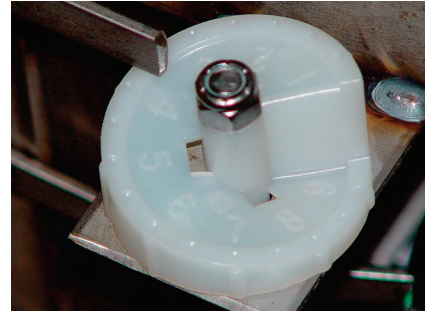

Fig. 6-1
2. The accurate method for checking pattern uniformity is to lay out shallow boxes or pans in a row on a line perpendicular to the direction of spreader travel. Eleven pans (included in the optional calibration kit), two inches high, placed on two-foot centers will provide accurate calibration to conduct the test. Insert the #13 step of the provided calibration gauge (See Fig. 5-1) into the Center Hole as shown (See Fig.5-3). Pull the fertilizer lever on the handle back until the slide plate touches the gauge. Lock in the setting by adjusting the rate dial (See Fig. 6-1).
- 3 Shift into High (H) gear, and time yourself over the course. Do the test several times to get an average **elapsed time**.
- 7 If that time is less than your elapsed time, rotate the spreader rate dial (FIG. 6-1) to a lower number. If that time is longer than the elapsed time, select a higher number. Retest and adjust as needed.
- 9 Repeat the entire process for Low (L) gear.